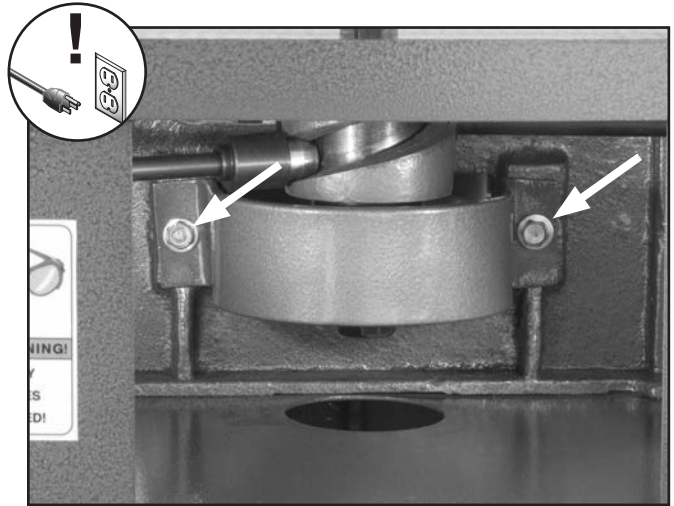

Figure 56. Spindle pulley cover mounting bolts.
3. Take off spindle pulley cover by removing (2) mounting bolts shown in **Figure 56**.